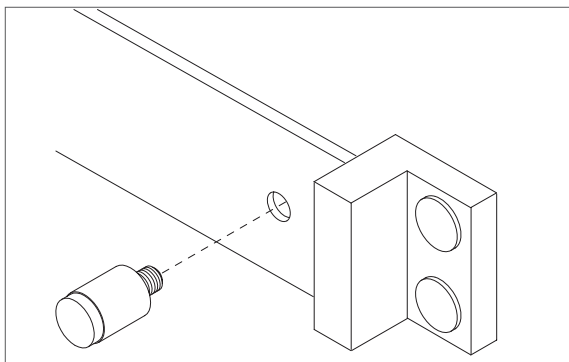

Figure 12
14. Install the soft stop. (Figure 12).